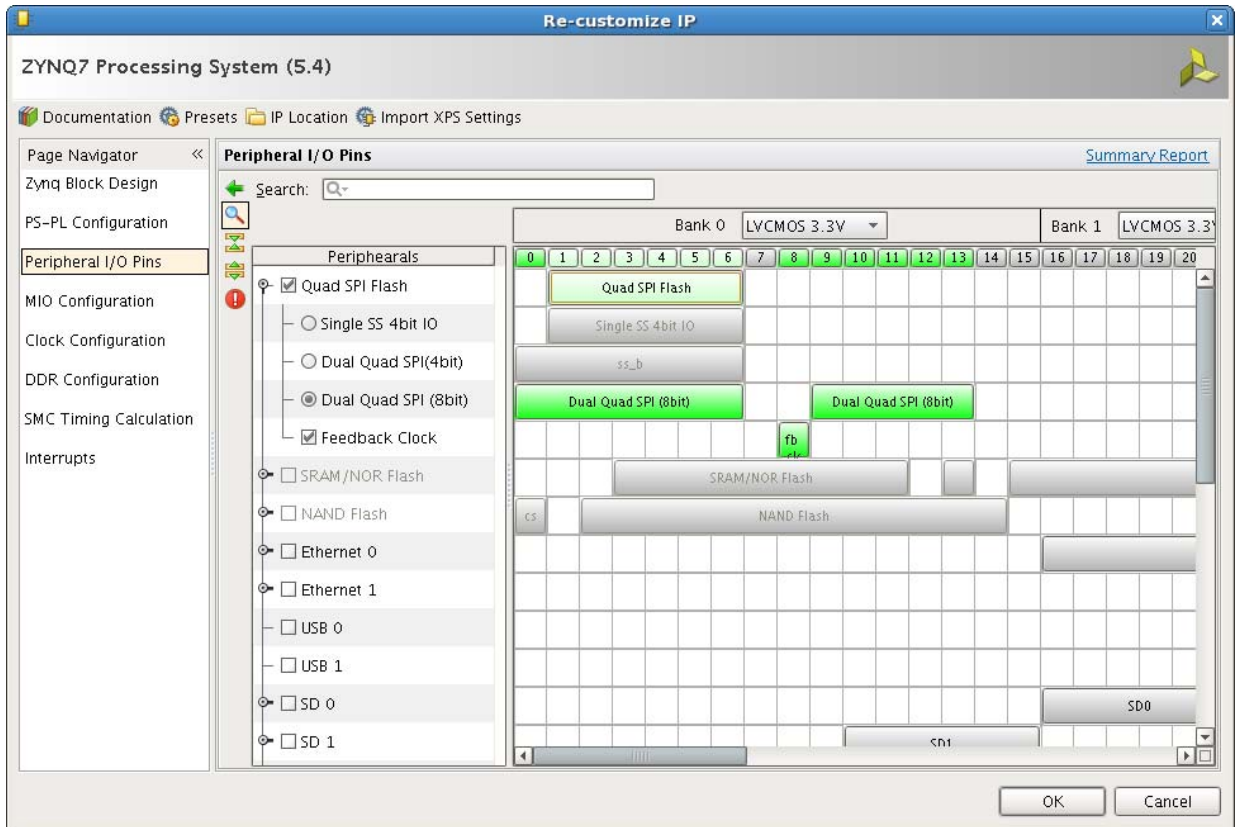

Figure 3-80: Enable Dual Quad SPI Configuration
1. Enable Dual Quad SPI configuration as shown in Figure 3-80.